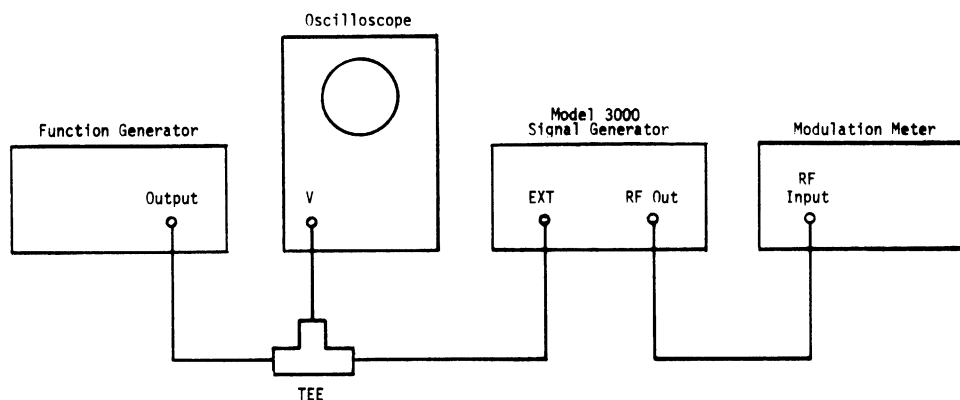

Figure 4-6. FM Bandwidth Setup
2. Connect the equipment as shown in Figure 4-6.